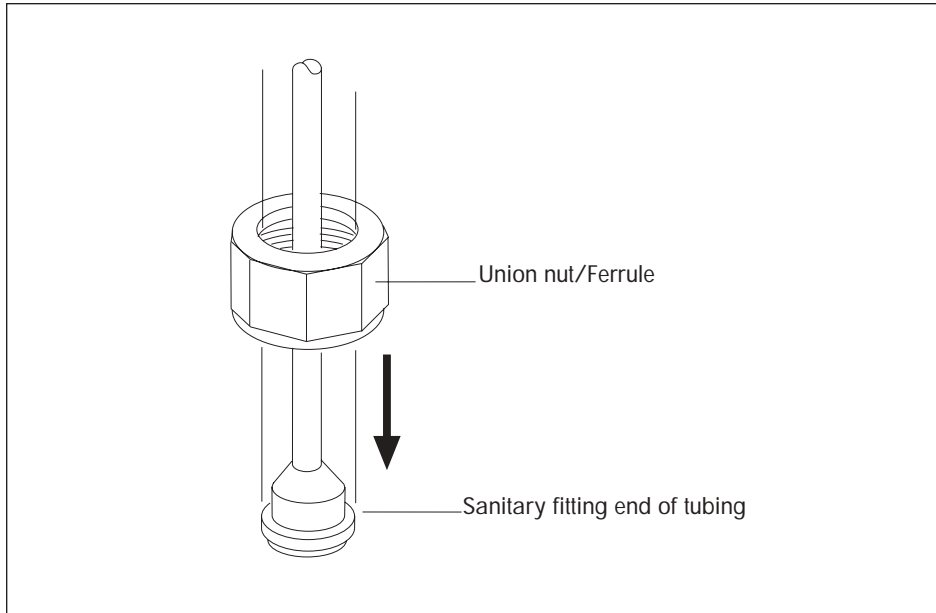

Figure 11. Union Nut and Ferrule on Tubing
- c. Push the union nut downward over the fitting end of the tubing (as shown in Figure 11) until it forms a snug cap. You will hear it “click” into place.